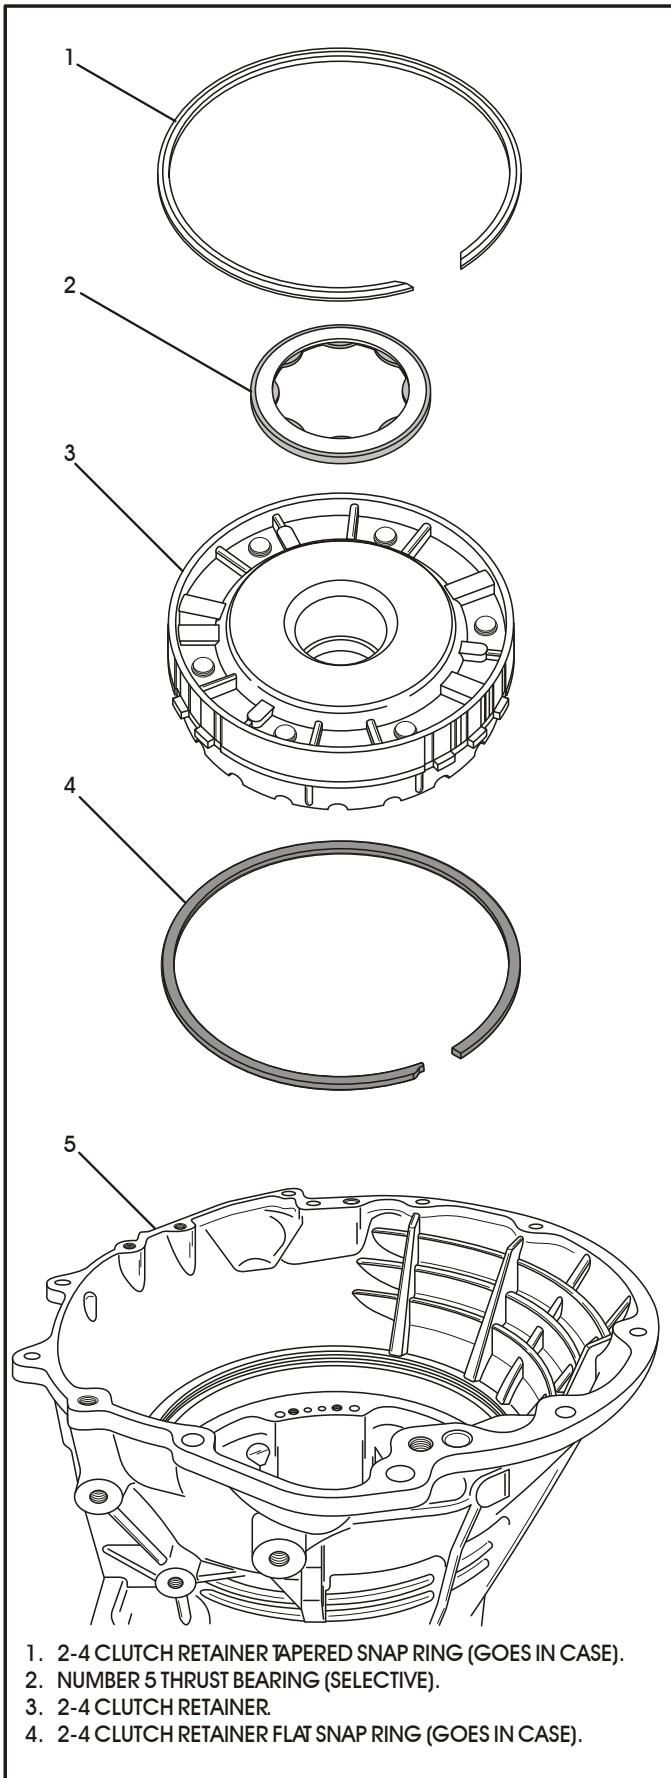

Figure 38
28. Remove the 2-4 clutch retainer front snap ring, which is a *tapered* snap ring, from transmission case as shown in Figure 38.
29. Remove the 2-4 clutch retainer from the transmission case, as shown in Figure 38, and set aside for component disassembly.
30. Remove the 2-4 clutch retainer rear snap ring, which is a *flat* snap ring, from the transmission case as shown in Figure 38.